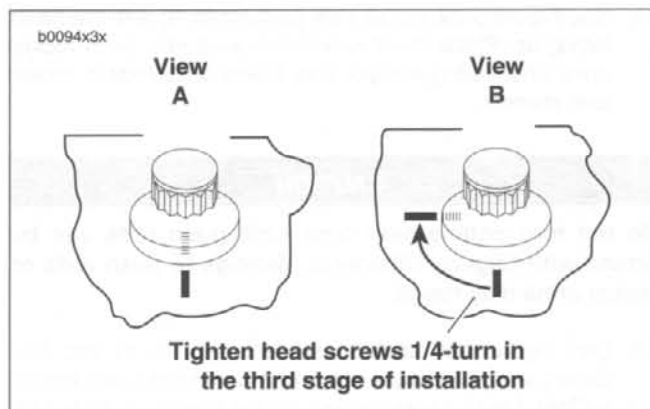

Figure 3-27. Tightening Head Screws
- c. See Figure 3-27. Mark cylinder head and head screw shoulder with a line as shown (View A). Tighten each screw a 1/4-turn (90°) (View B).